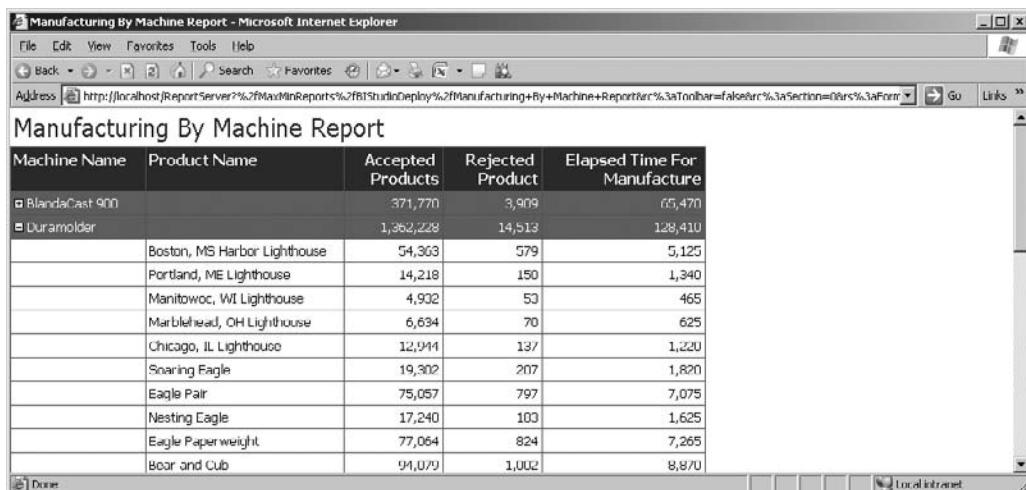

Figure 18-12 The suppressed toolbar
3. Expand the Duramolder group. The report is shown in Figure 18-12.